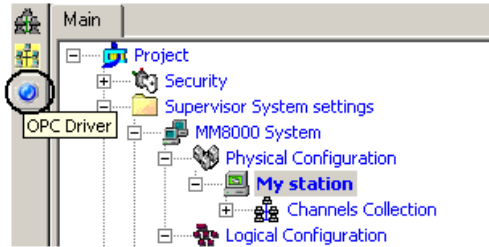

Fig 21 Adding the OPC driver
3. Click on the OPC driver icon  in the icon toolbar (Fig 21)